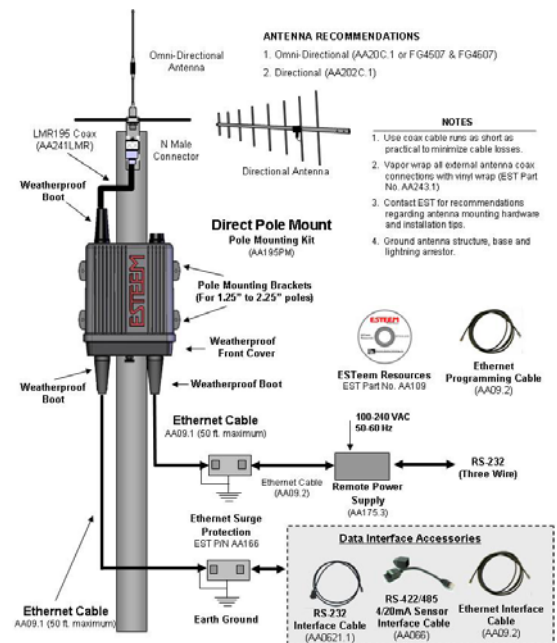

Figure 2 – Pole Mount Configuration
RS-232 – The ESTeem 195C and 195M have two (2) RS-232 data ports. One RS-232 port (Port 4) is available for use when the ESTeem 195C/M is remote pole mounted (Figure 2), but only supports the basic three wire (Transmit, Receive and Ground)